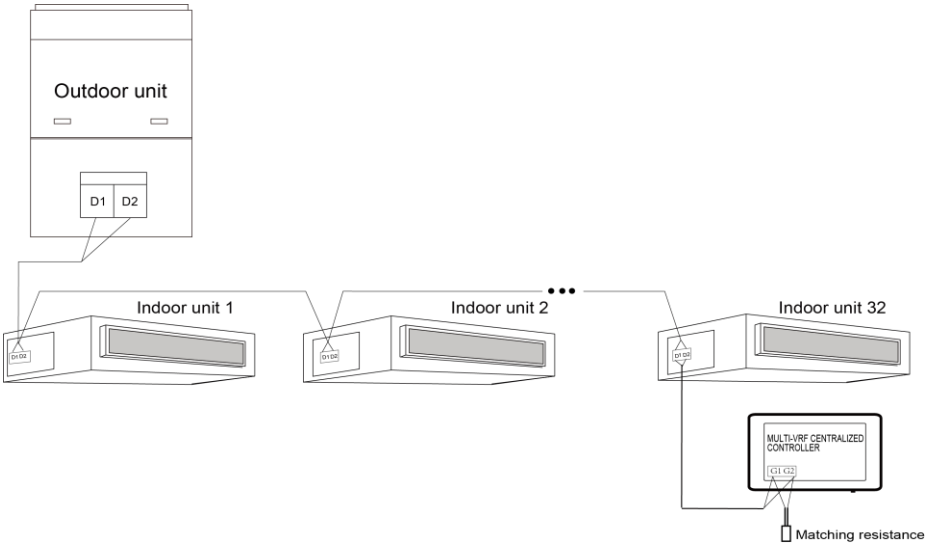

Fig.1.4 Centralized Controller Connected with Indoor Network
- ① The smart centralized controller is applicable to multi VRF units, connectable with network of indoor units or the network of outdoor units or mode converter network. One centralized controller can control up to 16 sets of outdoor system and up to 32 sets of indoor unit.
- ② If the centralized controller is to be connected with the network of indoor units, connect according to fig.1.4. The controller can connect with any one indoor unit in series, that is, connect the controller's G1 and G2 ports with the D1 and D2 ports correspondingly with communication cords. When the controller is connected with the terminal unit of indoor network, a matching resistance needs to be added with the communication cords at the G1 and G2 ports.